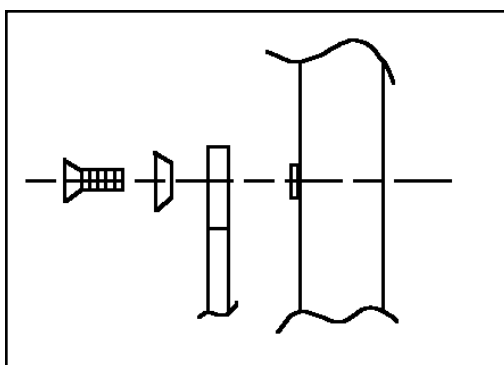

figure 2
4. Install the turnbuckles using one 1/4-20 x 5/8" flathead socket screw and special washer at each end as shown in *figure 2* and the accompanying photo.